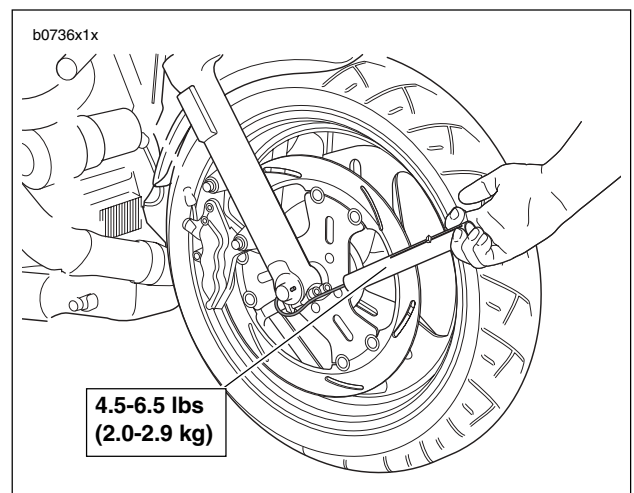

Figure 1-35. Checking Steering Head Bearings
6. See Figure 1-35. Hook a spring scale into the hole in the front axle. With scale 90 degrees from fork leg, pull front wheel to center position. It should take 4.5-6.5 lbs (2.0-2.9 kg) to pull front wheel to center.
6. See Figure 1-35. Hook a spring scale into the hole in the front axle. Pull front wheel to center position. It should take 4.5-6.5 lbs (2.0-2.9 kg) to pull front wheel to center.